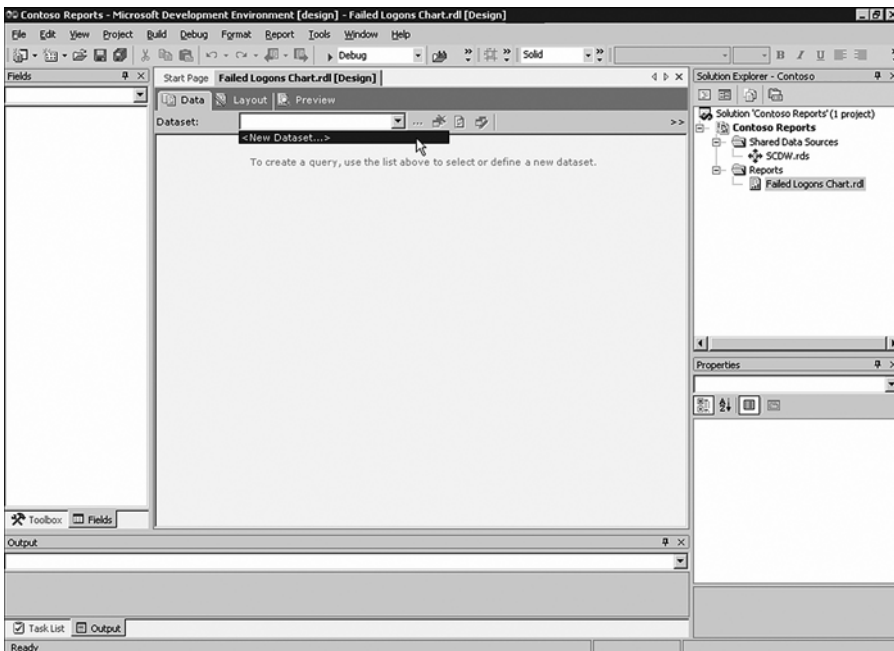

FIGURE 21.13 The New Dataset menu option on the Data tab.
3. The new report is created and opened within Visual Studio .NET 2003. Select the Data tab if it has not already been selected. Select <New Dataset...> from the Dataset drop-down menu to open the Dataset properties window. Figure 21.13 shows the location of the <New Dataset...> option.